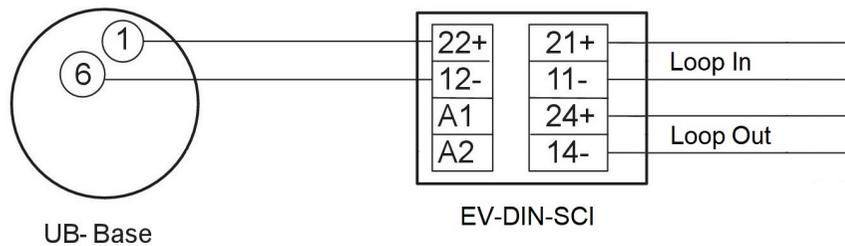

Figure 2
4. The device can also be used to spur addressable device(s) from the Loop as shown in Figure 2. However, a short circuit on the spur will be applied to the main Loop, so the next Loop device in each direction shall include an SCI, such as EV-MCP2-SCI Call Point with Isolator as an example.
5. Figure 2 below shows an alternative connection for Spurring addressable device(s) from the main Loop. With this option, the Loop continuity will be maintained in the event of a short on the Spur.